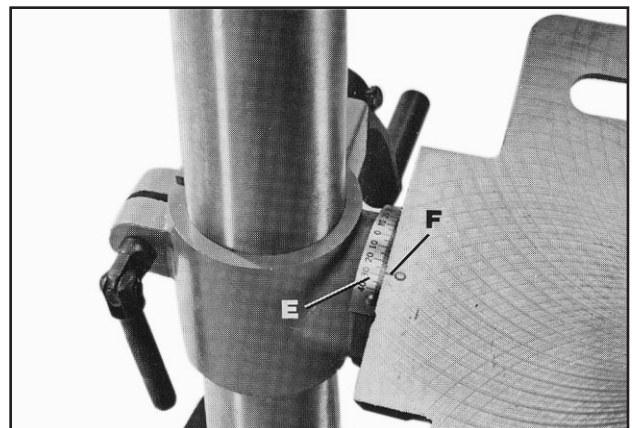

Fig. 22
5. A tilt scale (E) Fig. 22, is provided on the table bracket casting to indicate the degree of tilt. A witness line (F) is also provided on the table to line up with scale (E).